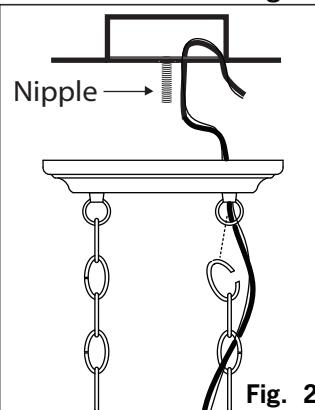

Fig. 2
2. Spread one end of chain open and fasten the upper loop. Hang the chain to the upper loop and close the opening. Repeat the same for another chain connection. Feed the cord and ground wire through the chain and the upper loop. (See Fig.2)